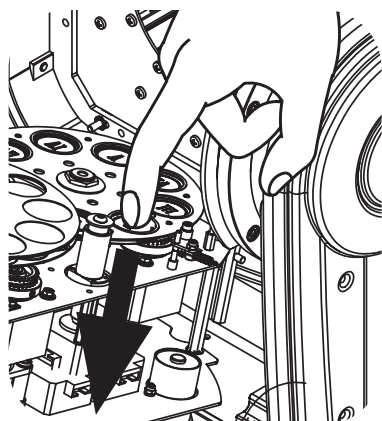
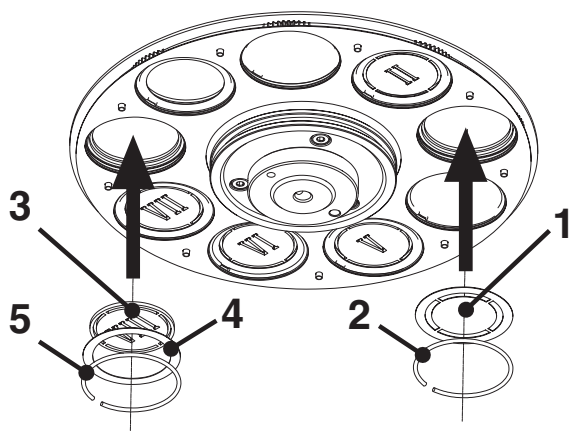

Fig.1
Fig 2
**Metal:** After opening the fixture, locate the gobo to be replaced, press delicately downwards (Fig.1) until the spring and the gobo come out, making sure they don't fall inside the fixture. Install the new gobo (1) as shown (Fig.2), followed by the locking spring (2).
**Dichro:** After opening the fixture, locate the gobo to be replaced, press delicately downwards (Fig.1) until the spring, ring and the gobo come out, making sure they don't fall inside the fixture. Install the new gobo (3) as shown (Fig.2), followed by the ring (4) and the locking spring (5).